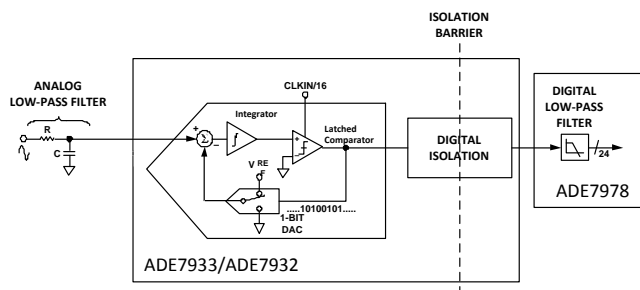
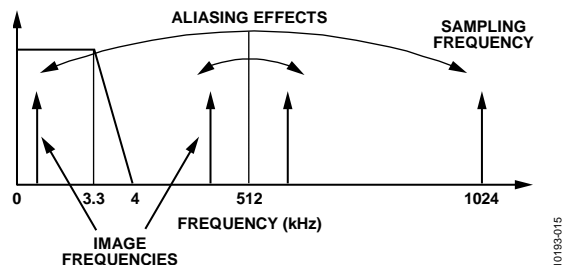

Figure 31. First-Order Σ - Δ ADC
Figure 33. Aliasing Effects
The ADE7933/ADE7932 has three sigma-delta (Σ - Δ) analog-to-digital converters (ADCs). For simplicity, the block diagram in Figure 31 shows a first-order Σ - Δ ADC. The converter is composed of the Σ - Δ modulator and the digital low-pass filter, separated by the digital isolation block.
Figure 31 also shows an analog low-pass filter (RC) on the input to the ADC. This filter is placed outside the ADE7933/ADE7932, and its role is to prevent aliasing. Aliasing is an artifact of all sampled systems as shown in Figure 33. Aliasing means that frequency components in the input signal to the ADC, which are higher than half the sampling rate of the ADC, appear in the sampled signal at a frequency below half the sampling rate. Frequency components above half the sampling frequency (also known as the Nyquist frequency, that is, 512 kHz) are imaged or folded back down below 512 kHz. This happens with all ADCs regardless of the architecture. In the example shown, only frequencies near the sampling frequency, that is, 1.024 MHz, move into the band of interest for metering, that is, 40 Hz to 3.3 kHz. To attenuate the high frequency (near 1.024 MHz) noise and prevent the distortion of the band of interest, a low-pass filter (LPF) must be introduced. It is recommended to use one RC filter with a corner frequency of 5 kHz for the attenuation to be sufficiently high at the sampling frequency of 1.024 MHz. The 20 dB per decade attenuation of this filter is usually sufficient to eliminate the effects of aliasing for conventional current sensors.